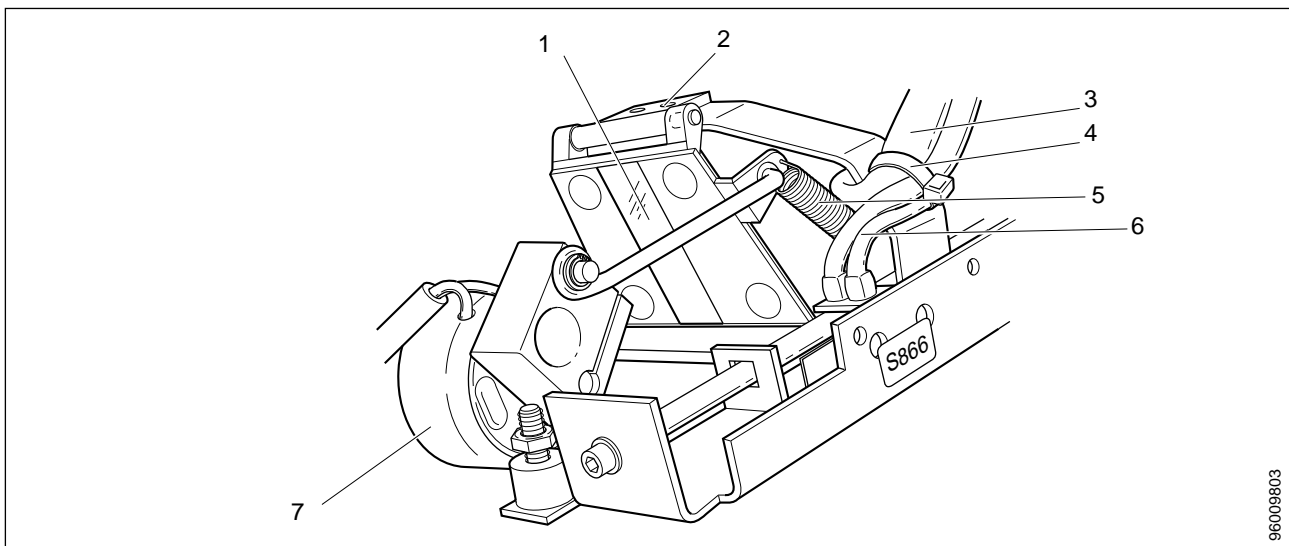
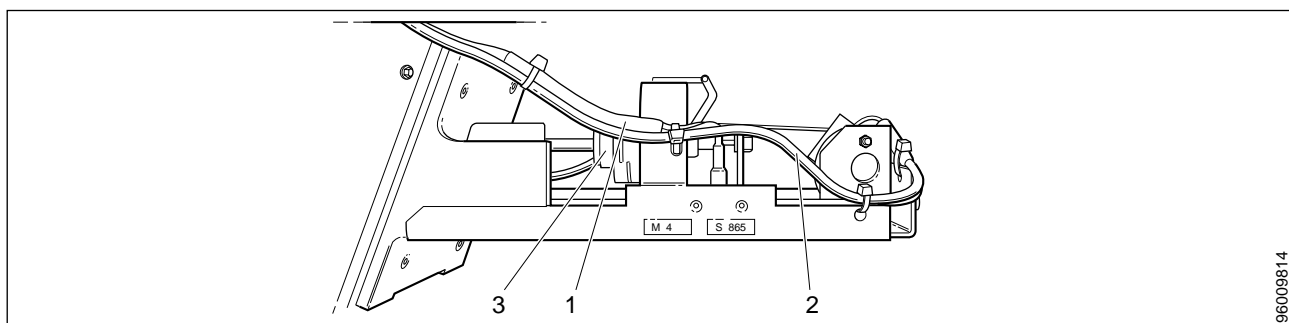

Fig. 3 Diaphragm, from right
Fig. 4 Diaphragm, from left
5. Cut and remove the cable tie (4/Fig. 3) holding the collimator lamp cable (3/Fig. 3).
6. Loosen the cable ties along cables from switches (6/Fig. 3), collimator lamp (3/Fig. 3) and electromagnet (7/Fig. 3).
Disconnect switch cable (6/Fig. 3) at X853, collimator lamp cable (3/Fig. 3) at X894, motor M4 cable (3/Fig. 4) at X854 and switch cable (1/Fig. 4) at X852.
Cable (2/Fig. 4) to electromagnet shall remain connected at X878.
7. Unhook the spring (5/Fig. 3) from the mirror (1/Fig. 3).